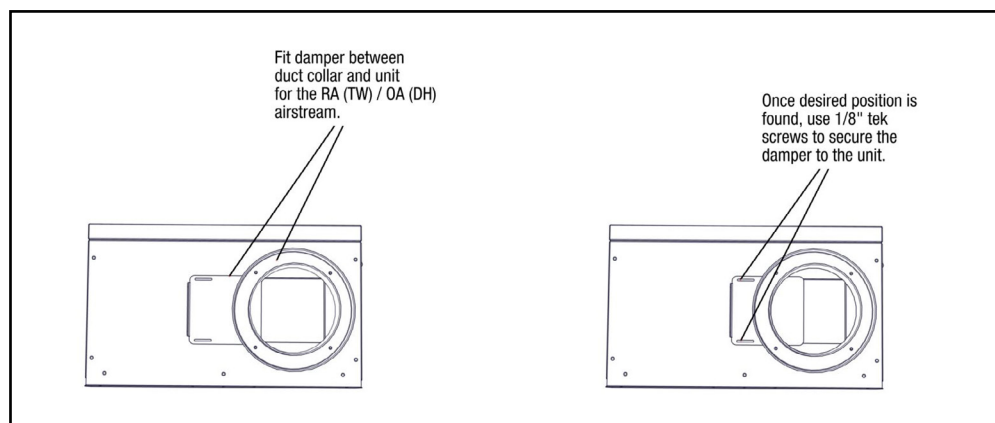

FIGURE 4.2.0 DAMPER INSTALLATION
**NOTE:** Install the damper as shown in Figure 4.2.0 below.